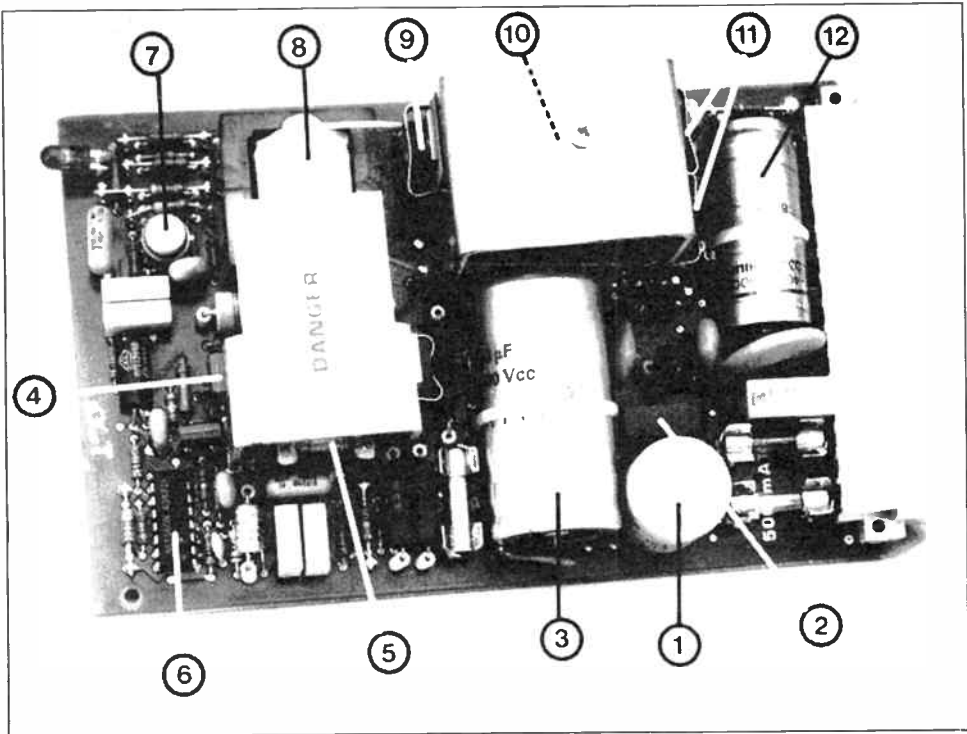

Fig. 8 A compact switch-mode power supply.
signal at the output of the controller is fed to the power MOSFET via a number of parallel CMOS buffers contained in a CD4049 package. The control circuit is fed from the mains via a capacitive voltage divider. Figure 8 shows a compact SMPS fitted on a printed circuit board. The arrows point to the following, essential, parts: (1) mains filter; (2) primary rectifier; (3) buffer capacitor for primary voltage; (4) switching transistor; (5) pulse transformer for base drive; (6) SMPS controller for pulsewidth modulation; (7) (secondary) voltage reference and error amplifier; (8) ferrite core transformer; (9) primary flyback diode for weakening the transformer field; (10) inductor in output filter; (11) secondary rectifier and flyback diode; (12) output capacitor.
Inductances are simulated by PICs as shown in Fig. 8, where (a) is grounded coil simulation; (b) is balanced coil simulation; and (c) is grounded and balanced coil simulation. In (c),  $L_1$  is simulated by  $\text{PIC}_1 + \text{PIC}_2 (R_{o1})$ , and  $L_2$  by  $\text{PIC}_2 (R_{o2})$ .